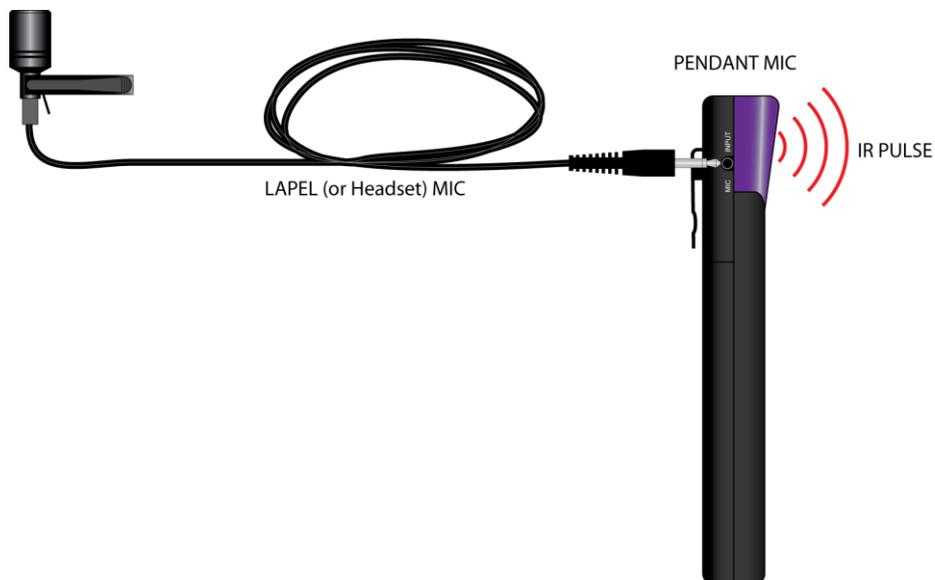

Figure 16. Using the Lapel Mic and Pendant
3. If using the **Lapel or Headset Mic**, connect to the **Pendant** as shown in **Figure 16**. Be sure the **Pendant** is pointing toward the **IR Sensors** so the **IR Pulses** from the **Pendant** will be 'seen' by the **IR Sensors**.